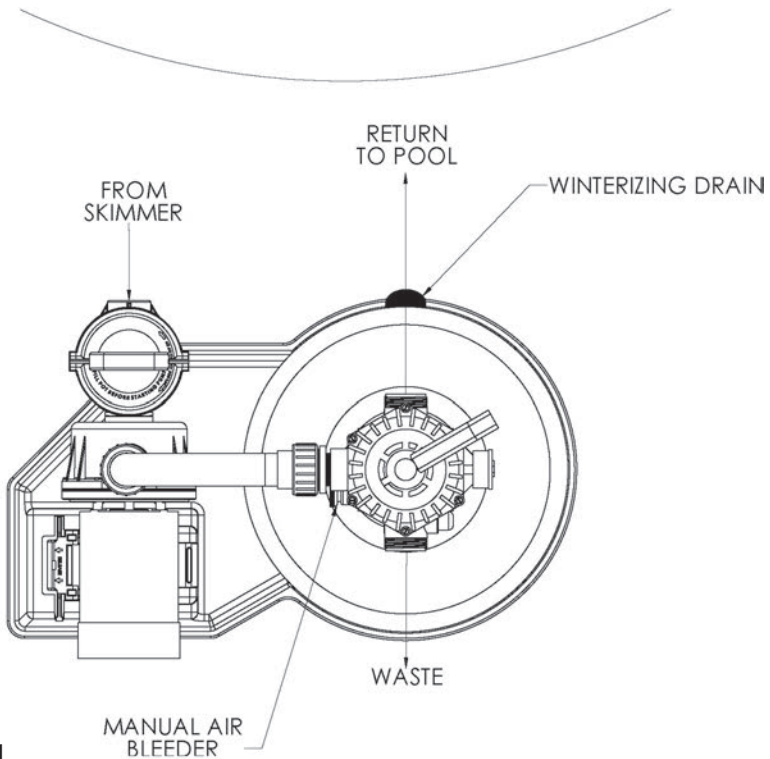

Figure 1.
2. Provide space and lighting for routine maintenance access. Locate the system close to the pool. See Figure 1 for typical installation.
- C. Place the system support base on the ground close to the final location of the unit. See Figure 1 on the next page.
6. Be sure top of filter is free of any sand or debris and valve o-ring is in place on valve body. Install valve so that the port locations are in the desired final position. See Figure 1 (see page 4).